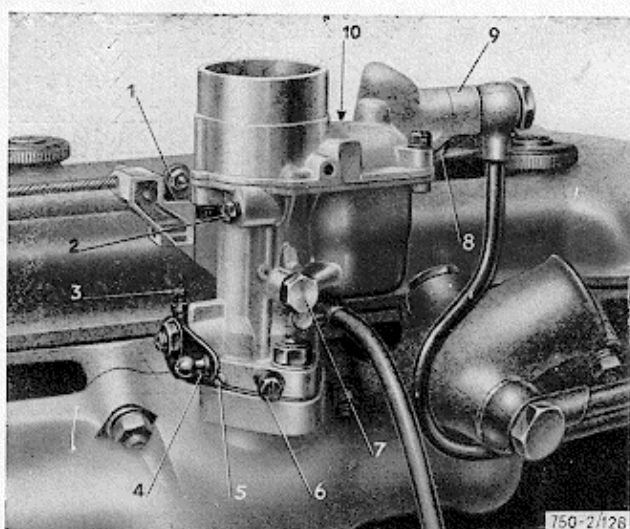

Fig. 126 - Carburettor Solex C 32 BIC for Giulietta Berlina
- slightly screw in the screw adjusting the throttle opening **5** (fig. 126) in order to increase the engine speed ;